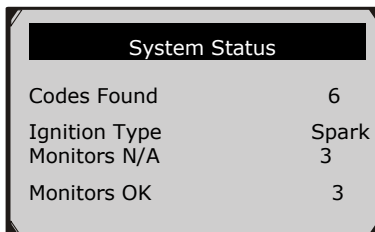
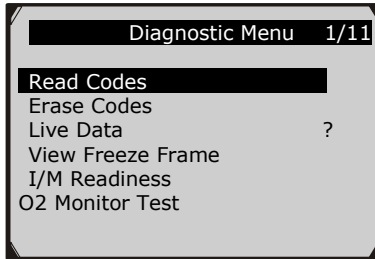

Figure 5.2
Figure 5.4
- 9) View a summary of system status (MIL status, DTC counts, Monitor status) on screen. (Figure 5.2 ) Wait a few seconds or press any key for **Diagnostic Menu** (Figure 5.4) to come up.
- 1) Use the **UP/DOWN** scroll buttons to select **Erase Codes** from **Diagnostics Menu** and press the **OK** button. (Figure 5.4)
- 1) To view live data, use the **UP/DOWN** scroll button to select **Live Data** from **Diagnostic Menu** and press the **OK** button. (Figure 5.4)